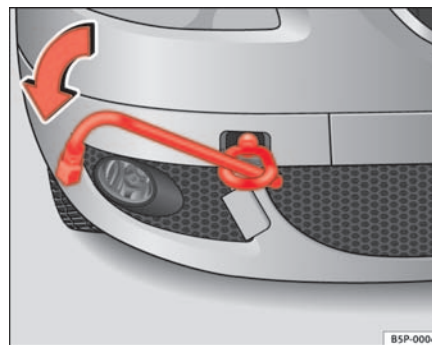
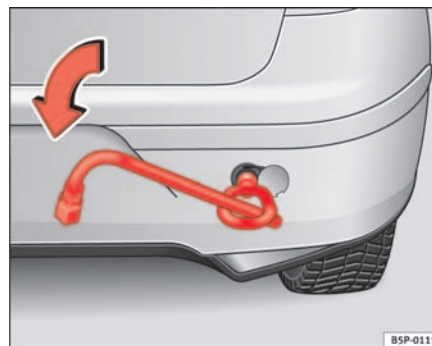

Fig. 194 The front right section of the vehicle: Fitting the front towing eye
Fig. 195 Fitting the towing eye to the rear of the vehicle
- Screw the towing eye as shown by arrow *anti-clockwise* to the limit position in the front ⇒ page 252, fig. 194 or rear ⇒ page 252, fig. 195 threaded hole.